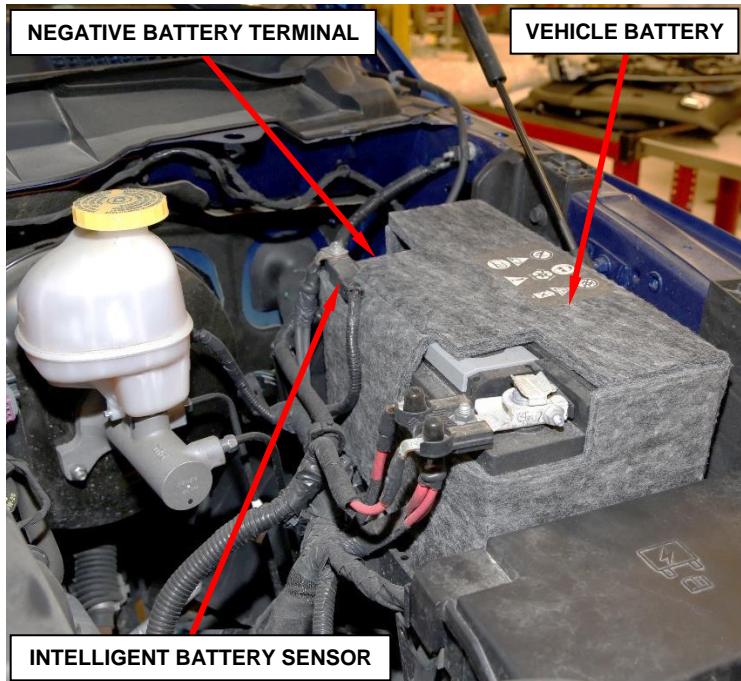

Figure 10 – Negative Battery Cable
27. Disconnect and isolate the negative battery cable by removing only the captive nut securing the terminal end to the post (Figure 10)